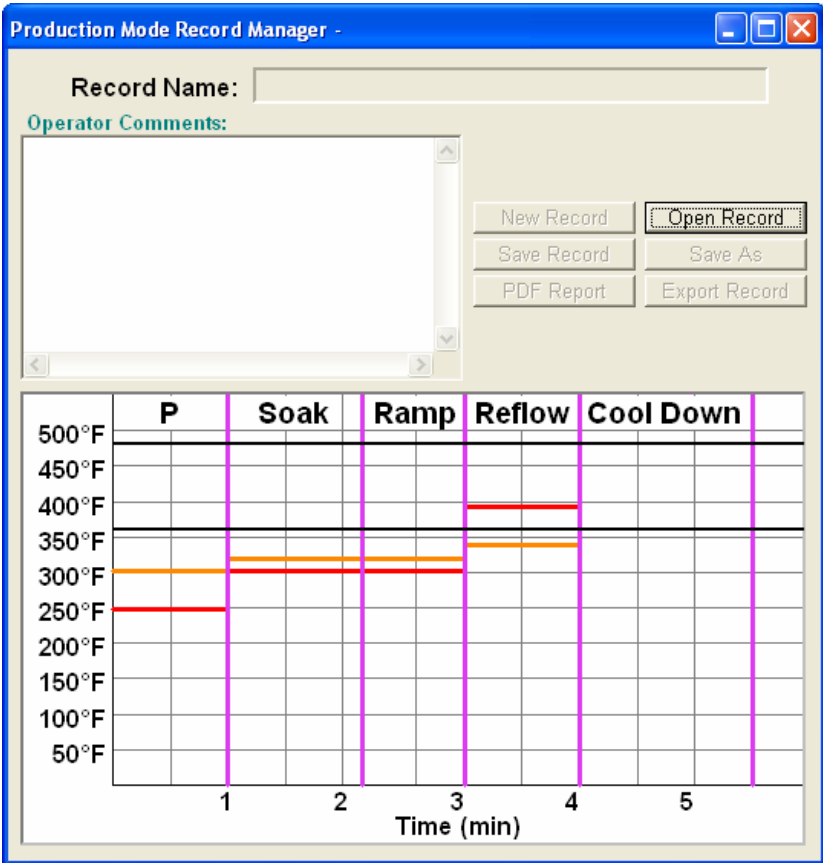

Figure 6c
- xi. Production Mode Record Manager Features (Figure 6c)